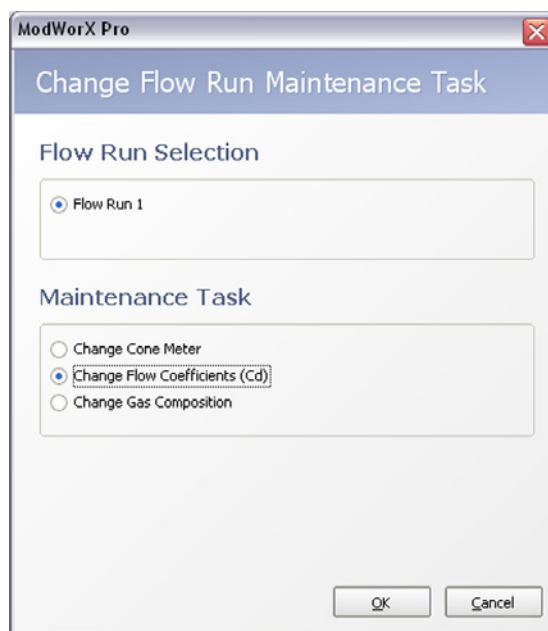

Figure 10.8
- If Change Gas Composition is not displayed in the Maintenance Task field at the top of the Maintain Flow Run screen, click on **Change Task**. The Change Flow Run Maintenance Task dialog will appear (Figure 10.8).